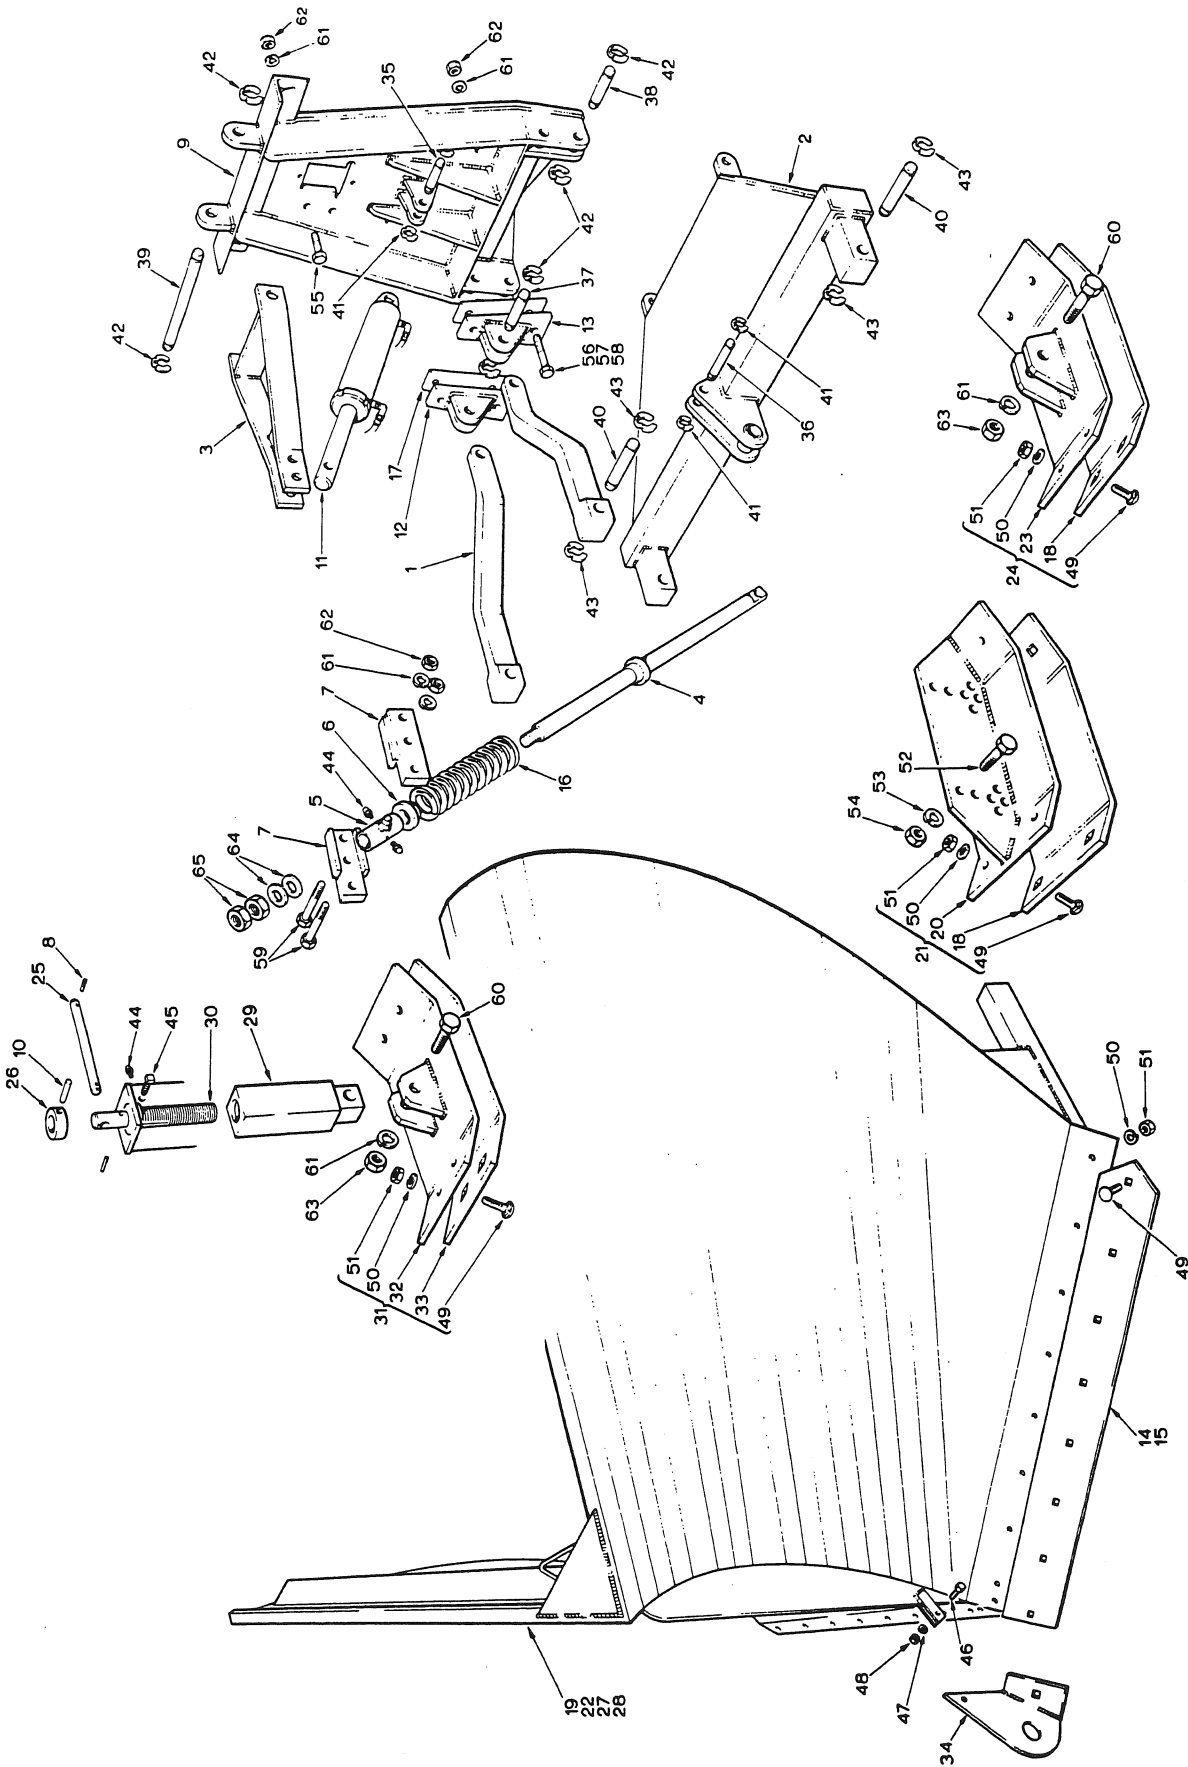

Figure 8
1. Removal and Disassembly (Fig. 8).
12. Assembly and Installation (Fig. 8). Install the yoke (3) onto the A-frame (9), and retain with the pin (39). Secure the pin with two kliprings (42).
KEY TO FIG. 8
23. Adjustments (Fig. 8). The plow shoes should be adjusted so that the edges of the plow are high enough to prevent scraping the road surface. Two types of shoe adjustments are available as follows:
- a. Standard Shoes. Four standard shoes (21) - two front, two rear - are re-retained on the V-plow blade frame by two hexagon head bolts (52), nuts (54) and lockwashers (53) per shoe. Adjustment is effected by raising the V-plow blade off the ground, removing the hardware, selecting the new position and installing the hardware into the alternative holes. Lower the blade.
- b. Optional Shoes. Three shoes - one front (31), two rear (24) - are available as an optional arrangement, and are connected to an adjustment screw and swivel assembly by one hexagon head bolt (60), nut (63) and lockwasher (61) per shoe. Adjustment is effected by raising the V-plow blade off the ground and turning the adjusting screw handle (25) until the desired height is obtained. Lower the blade.
24. Worn edges (14 or 15) can be replaced by removing the required quantity of carriage bolts (49), nuts (51) and lockwashers (50); then removing the edges.
26. Worn outer shoes (18 and 33) can be replaced by removing the required quantity of carriage bolts (49), nuts (51) and lockwashers (50); then removing the outer shoe.